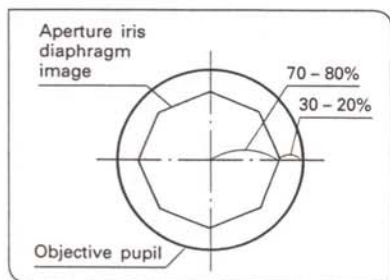

Fig. 36
**Aperture Iris Diaphragm (Figs. 36,37)**
- Since the contrast of microscopic specimens is ordinarily low, setting the condenser aperture iris diaphragm to 70-80% of the N.A. of the objective in use is usually recommended. When necessary, adjust this ratio by removing the eyepiece and peering into the eyepiece sleeve to see the image shown in Fig. 36.